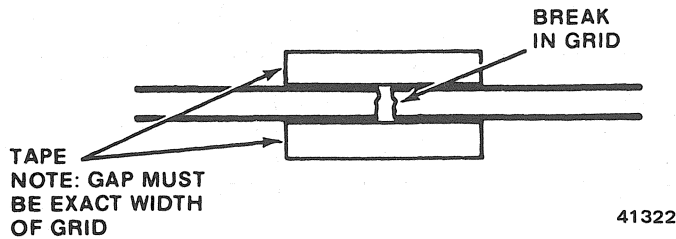

Fig. 3U-3 Tailgate Window Defogger Grid Repair
(1) Using suitable marking pencil, mark location of broken or open grid on exterior surface of glass.
(2) Using fine steel wool, lightly rub area to be repaired (inside of tailgate window). Clean area with isopropyl alcohol (rubbing alcohol).
(3) Attach two strips of cellulose tape (inside of tailgate window) above and below break in grid as shown in figure 3U-3.